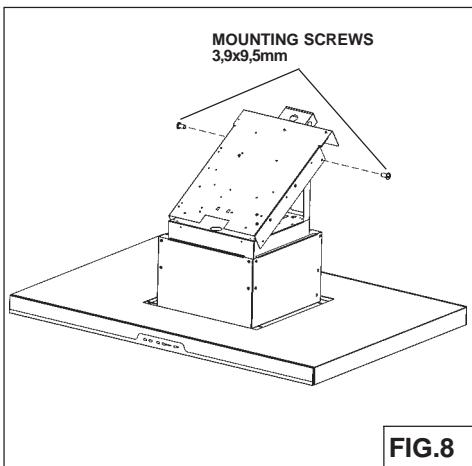

FIG.8
1. Remove the electrical system box from chimney frame by removing (2) 3.9 x 9.5 mm screws (Fig. 8).